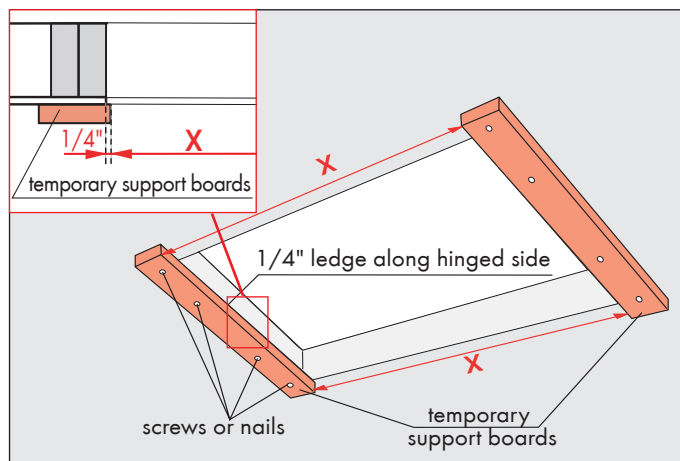

Fig.20. Installation of temporary support boards.
Using 4 nails or screws attach the temporary support board  $1\bar{E} \times 4\bar{E} \times 36\bar{E}$  where the hinged end of the ladder will be installed. This temporary support board must form a  $1/4\bar{E}$  ledge across the ceiling opening (Figure 20).
**CAUTION:** Check the distance between the temporary support boards, it must be equal to the values given in table 3 and fig. 20. The attic ladder can fall down if the temporary support boards are spaced incorrectly.
You must have temporary support boards installed at both ends (Figure20)